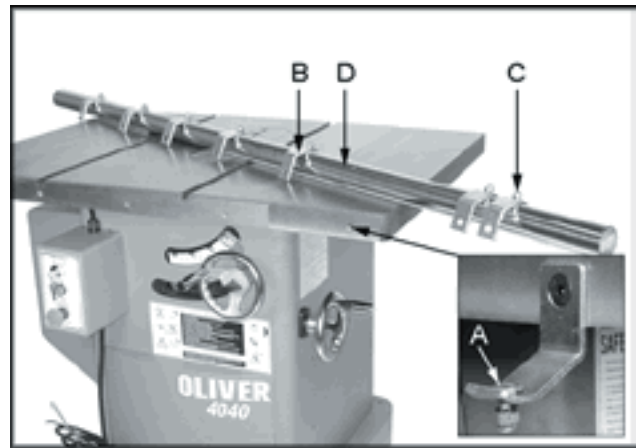
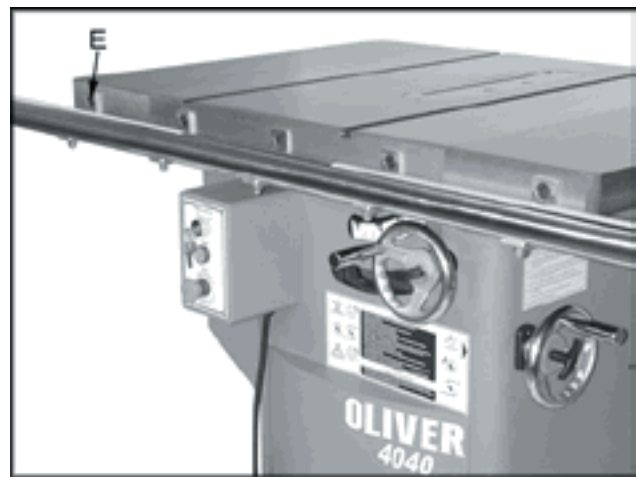

Figure 4
Figure 5
1. Place a M8x16 carriage bolt (A, Figure 4) through the bracket (B, Figure 4) and hold in place with a M8 lock washer and M8 cap nut (C, Figure 4). **Note:** Just thread the cap nut onto carriage bolt a couple turns to hold in place. Leaving the bolt loose will make it easier to insert the head of carriage bolt into guide rail slot.
3. Once all of the brackets have been attached to the guide tube (D, Figure 4) mount the brackets to table using seven M10x16 flat head socket bolts (E, Figure 5).